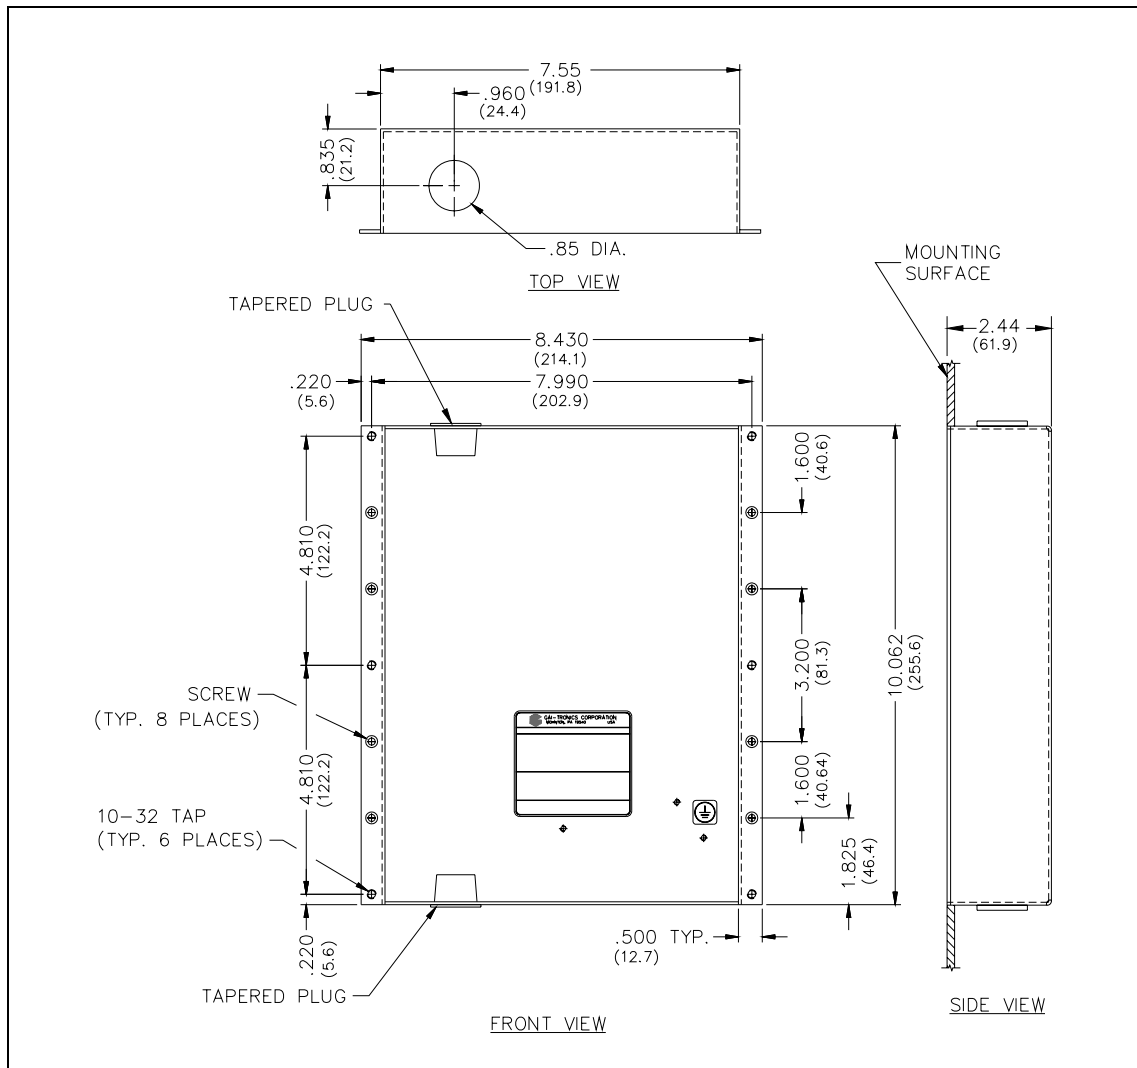

Figure 11. Model 297-001 and 298-001 Mounting Details
1. When mounting in a GAI-Tronics Model 234 Series Stanchion, or for flush-mount installations, the supplied back box must be used to mount the Model 297-001 or 298-001 Telephone. Mount the back box to the structure using the appropriate hardware. Refer to Figure 11 cutout dimensions.